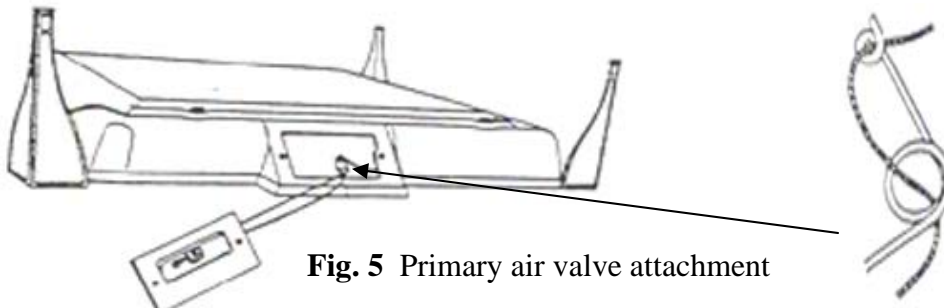

Fig. 5 Primary air valve attachment
4. Install the primary air valve assembly on the stove bottom with the hinged side down (**Fig. 5**). Secure the assembly with two Phillips round head bolts, 1/4-20 x 5/8".